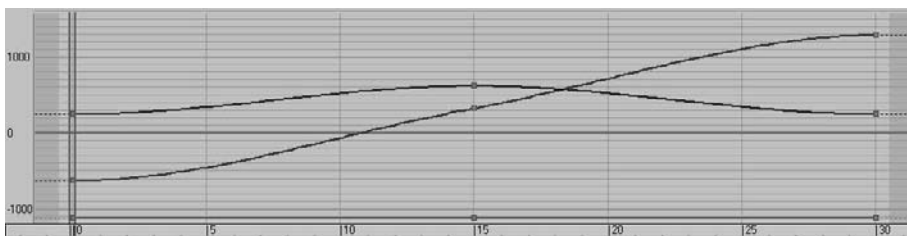

Figure 8.46
5. Scrub your animation, and you should see the knife move with a slight ease-in and ease-out toward the target with a slight arc up in the middle. You want the position of the knife to start at frame 10, so open the Curve Editor and scroll down in the Controller window until you see the three X, Y, Z Position tracks for the knife. Hold the Ctrl key and select all three tracks to display their curves (Figure 8.46).